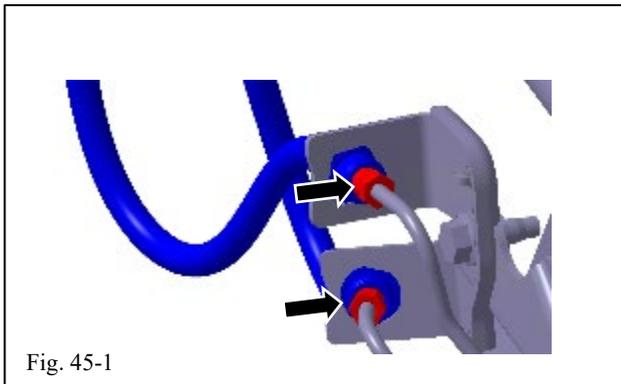

Fig. 45-1
- (a) Using a union nut wrench, disconnect the brake tube while holding the rear No. 2 brake hose with a wrench (Fig. 45-1).